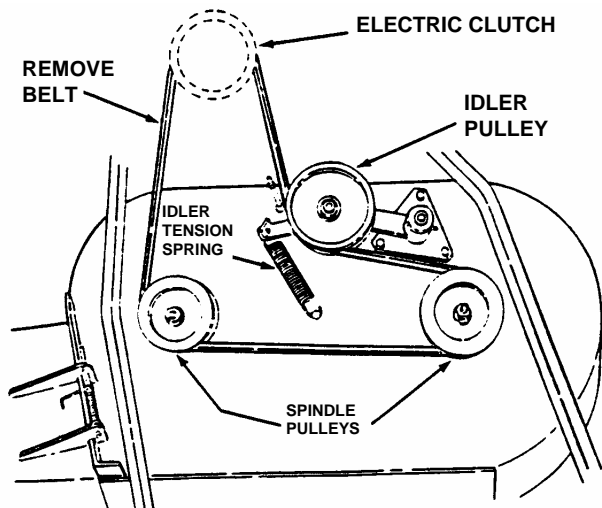

FIGURE 5.1
4. Remove old belt from Spindle Pulleys and Electric Clutch Pulley. See Figure 5.1.
2. Route new belt around Spindle Pulleys as shown in Figure 5.1.